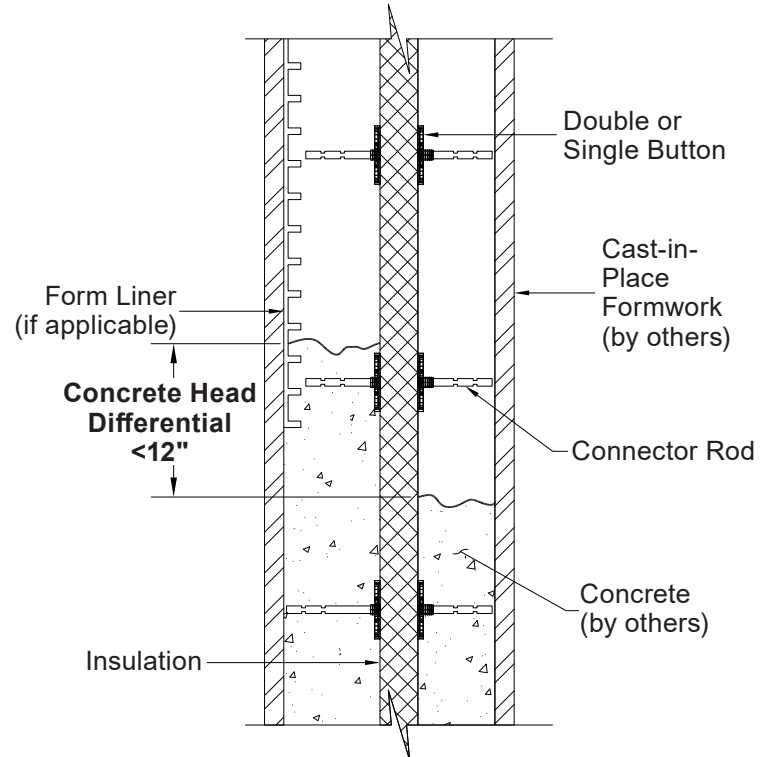

Figure 4 – Section through Thermomass CIP wall during concrete pouring process
4. PLACE THE CONCRETE Use accepted practice for concrete mix design and placement procedures for thin wall sections. If multiple walls intersect, start the concrete placement at the insulated walls. **Ensure that the concrete is placed on both sides of the insulation with a maximum head differential of 12"** (Figure 4). Vibrate concrete properly to ensure full consolidation around connectors and reinforcement and to assist with flow of concrete to required location.